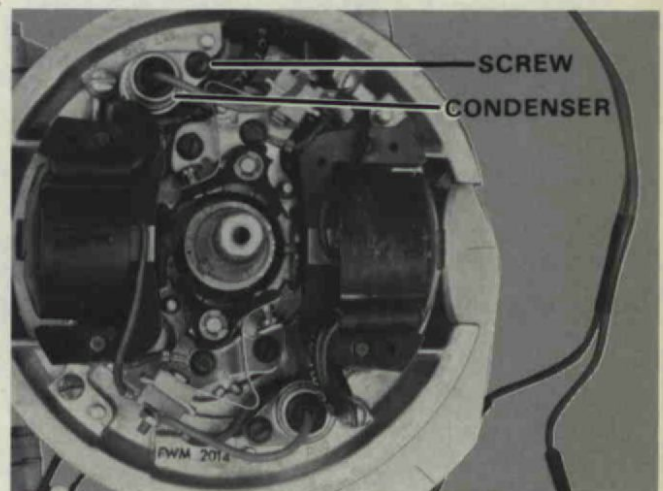

Figure 30. Removing Condenser.
3. Remove screw retaining condenser to stator plate as shown in Figure 30.